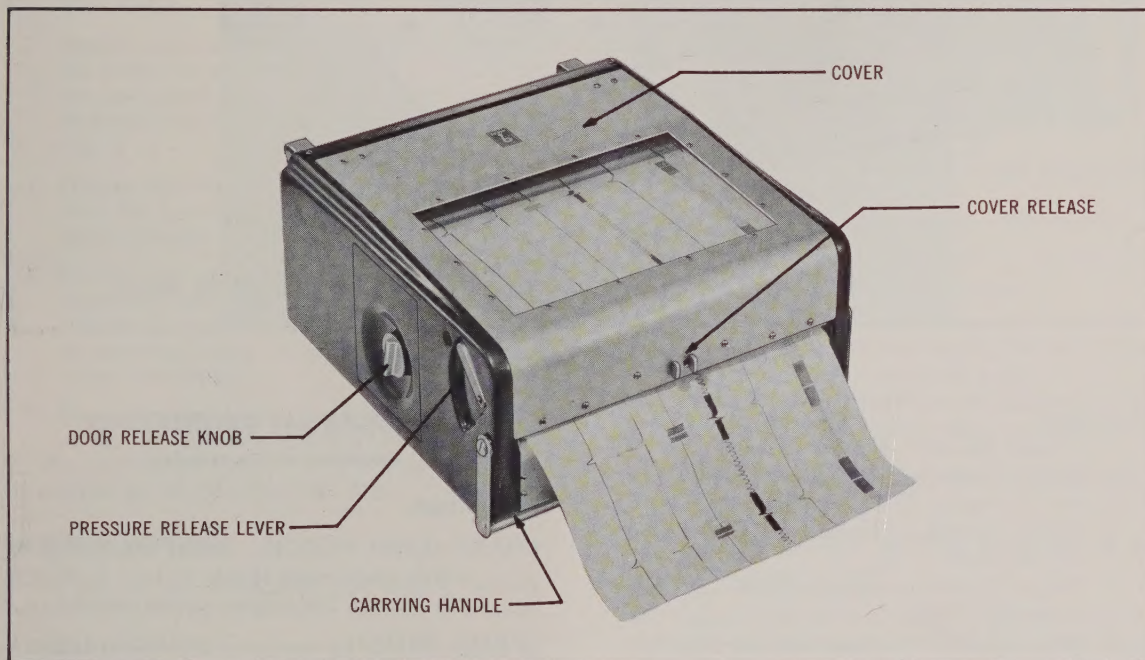

Fig. 1. Brush Portable Six-Channel Oscillograph, Model BL-276 D.C.
3. Lift the COVER of the oscillograph by means of the COVER RELEASE. Fig. 1.